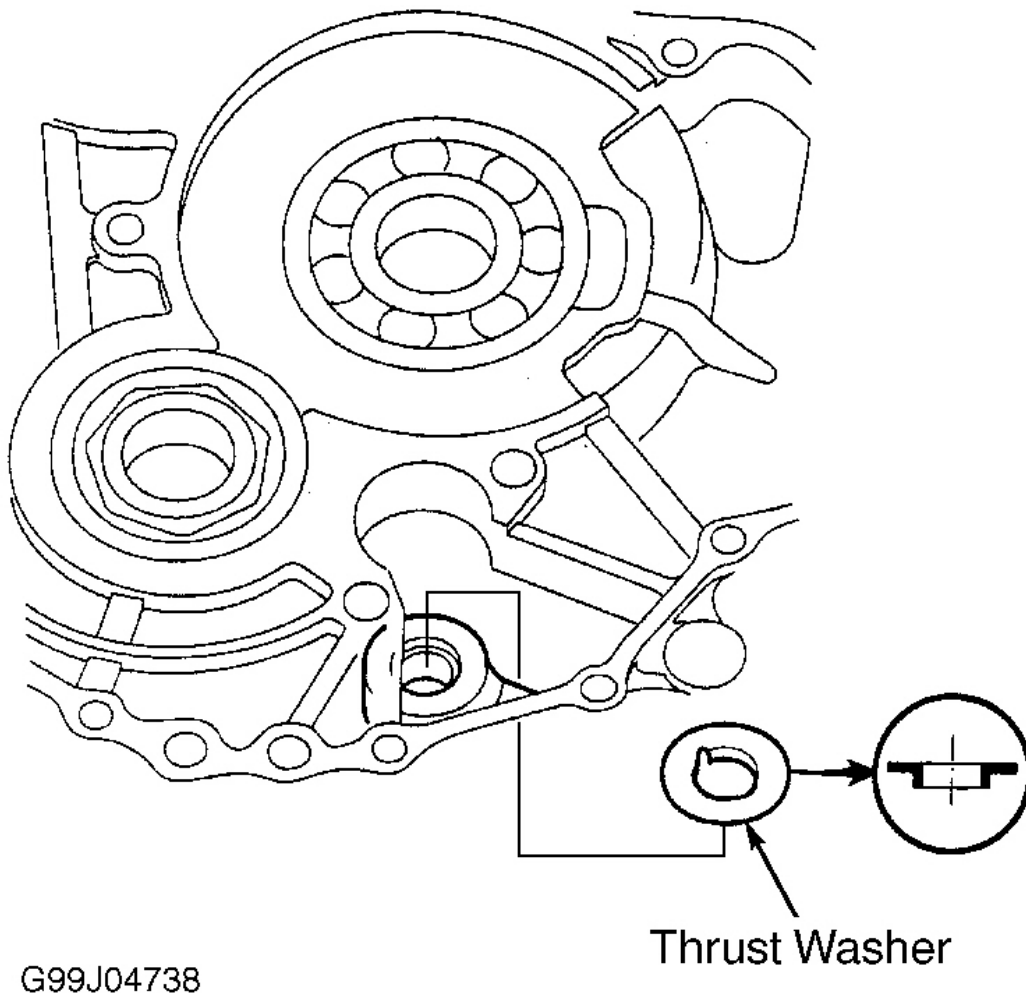

Fig. 35: Installing Reverse Idler Gear Thrust Washer
9. Install needle bearing, countershaft reverse gear and countershaft 2nd gear on countershaft. Install thrust washer for reverse idler gear in transaxle housing. Ensure thrust washer is installed in correct direction. See Fig. 35.